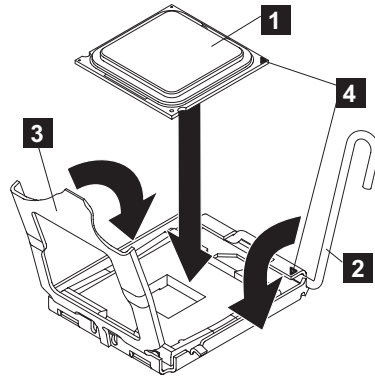

Figure 252. Closing the SAN Volume Controller 2145-CF8 microprocessor-bracket frame
4. To align the microprocessor with the socket, use the triangular alignment cutout on the microprocessor socket and the triangular alignment mark (**4** in Figure 252 on page 269) on the microprocessor. Also use the position of the notches to align the microprocessor.